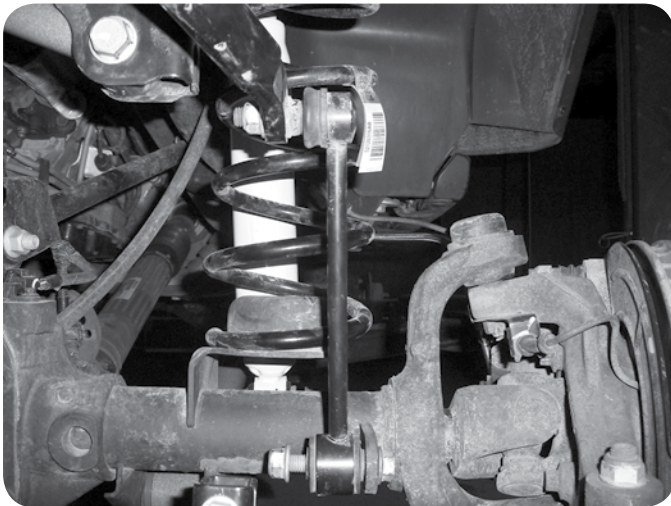

Figure 9
6. Disconnect the sway bar links from the sway bar and axle. Save lower hardware for installing the new links to the axle. Move the factory rear sway bar links (with upper mounting nut) to the front of the vehicle and install to the axle with the original front link hardware and to the sway bar with the factory nut (Figure 9). Torque upper and lower hardware to 60 ft-lbs.